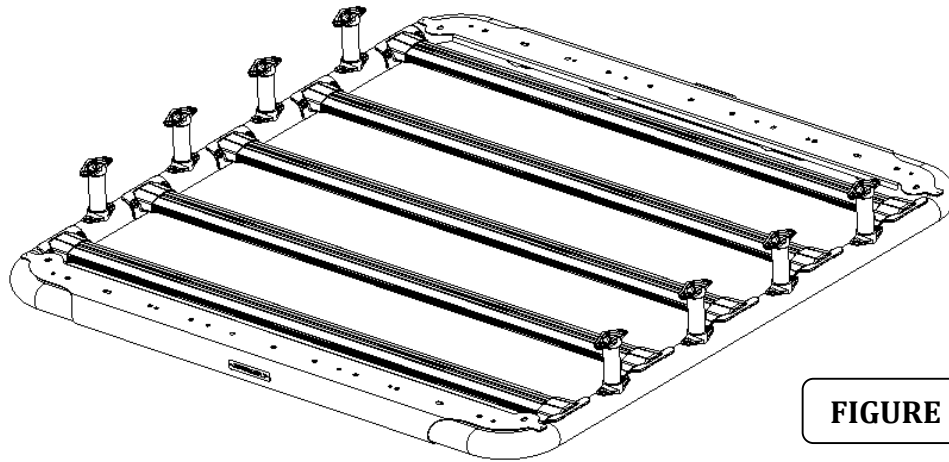

FIGURE 1
Step-2 Align the holes in each stand-off with the rivet-nuts in the side rail tube and secure the stand-off to the side rail using (2) 1/4" x 1" SEMS bolts (Fig 1, 1a). Snug but do not tighten the bolts.